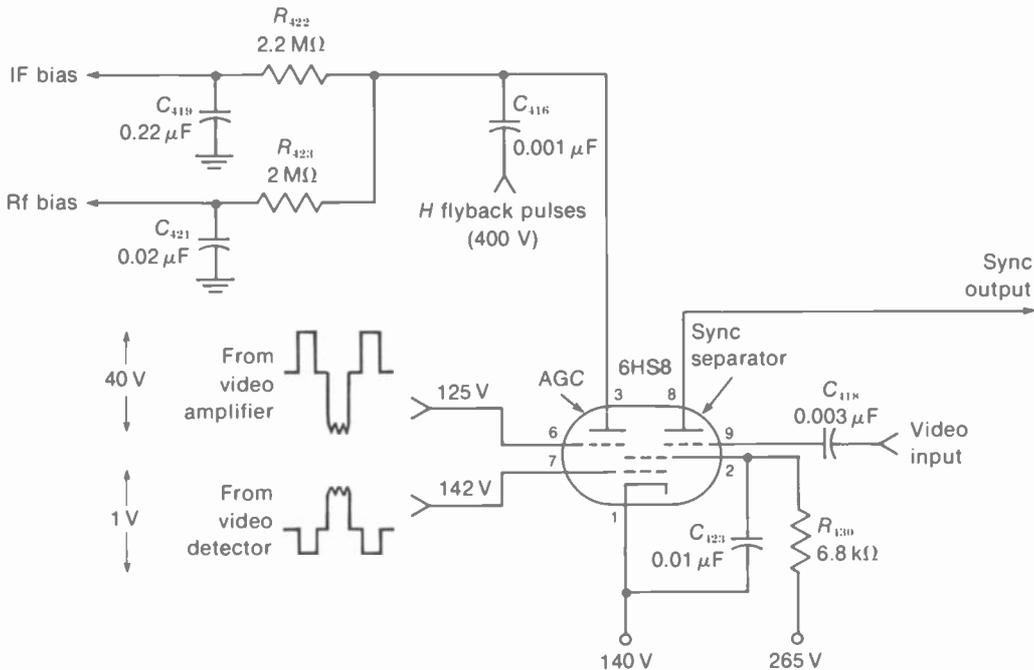

FIGURE 15-9 TWIN PENTODE TUBE FOR AGC AND SYNC SEPARATOR. (FROM ADMIRAL CHASSIS K16)
**Noise inverter.** Also called a *noise gate*, this circuit inverts the polarity of noise pulses by reversing the polarity of its video signal. The purpose is to cancel noise pulses in the video signal to the AGC stage. The noise inverter is also used for the sync separator circuit. As an example, the circuit in Fig. 15-9 combines the AGC stage and sync separator, with a noise inverter circuit common to both.
See Fig. 15-9. The special tube for this application has one cathode and one screen grid common to both sharp-cutoff pentodes. Also common is the first control-grid pin 7, which serves as a noise gate. The AGC stage at the left has a separate grid connection at pin 6 for video signal input, with the AGC output at plate pin 3. The pentode at the right has its own grid pin 9 for video input and plate pin 8 for sync output. This sync separator is explained in more detail with Fig. 16-29 in Chap. 16 on Sync Circuits. The twin pentode tubes generally used for this combined sync and AGC circuit are the 4HS8, 6HS8, 3BU8, and 6BU8.